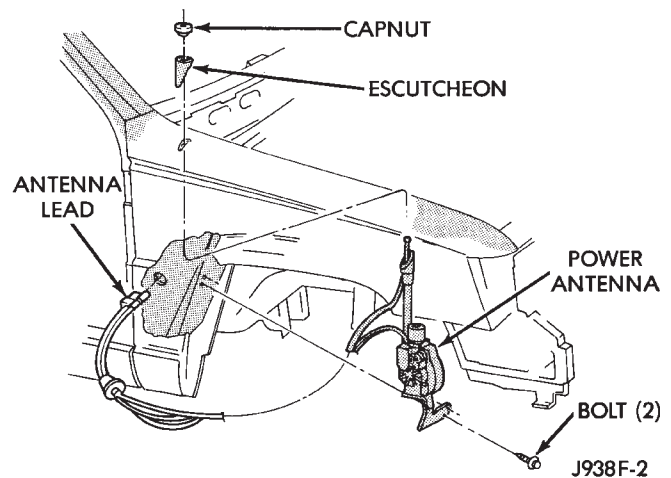

Fig. 1 Remove/Install Escutcheon and Antenna Pad
(1) Remove the fender inner splash panel to gain access to the antenna mounting screws.
(2) Remove the cap nut and escutcheon from the top of the fender (Fig. 1).